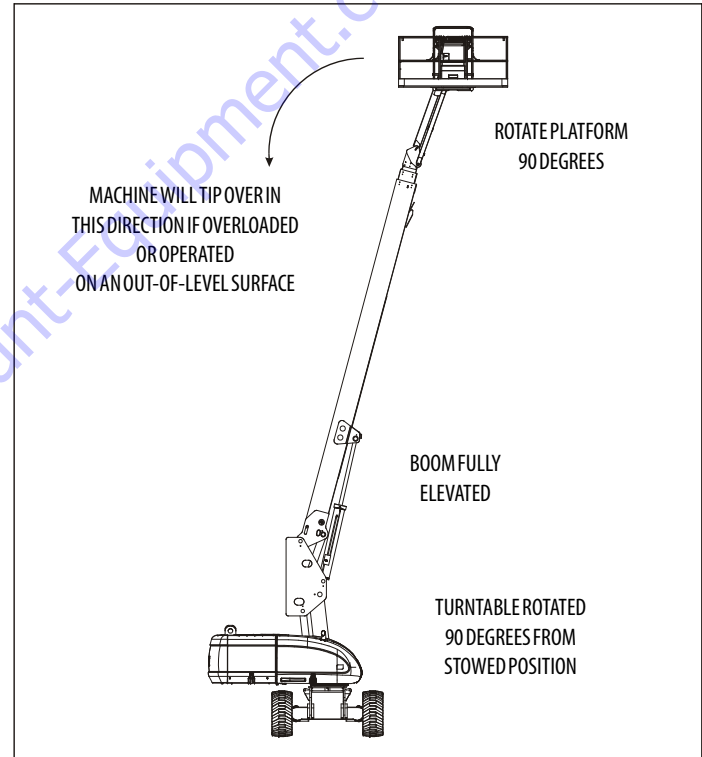
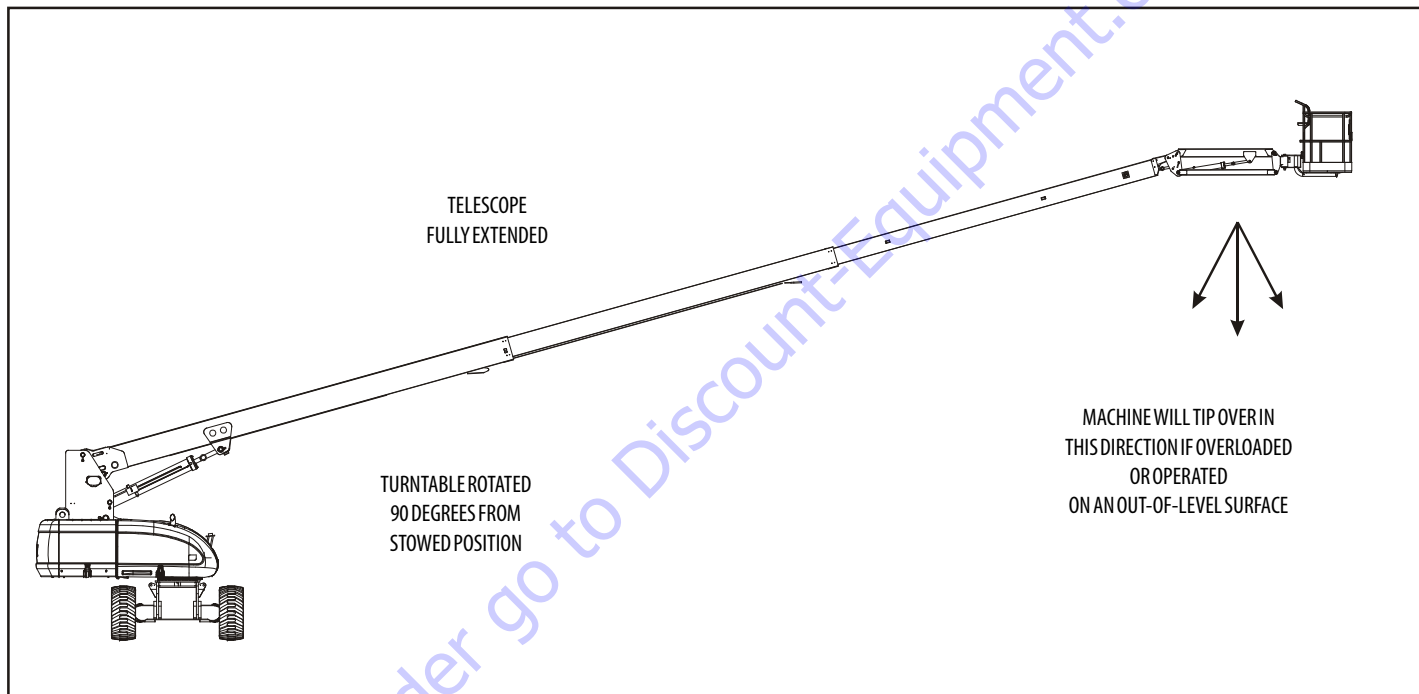

Figure 4-2. Position of Least Backward Stability
Figure 4-3. Position of Least Forward Stability
Machine stability is based on two (2) conditions which are called FORWARD and BACKWARD stability. The machine's position of least FORWARD stability is shown in (See Figure 4-3.), and its position of least BACKWARD stability is shown in (See Figure 4-2.)